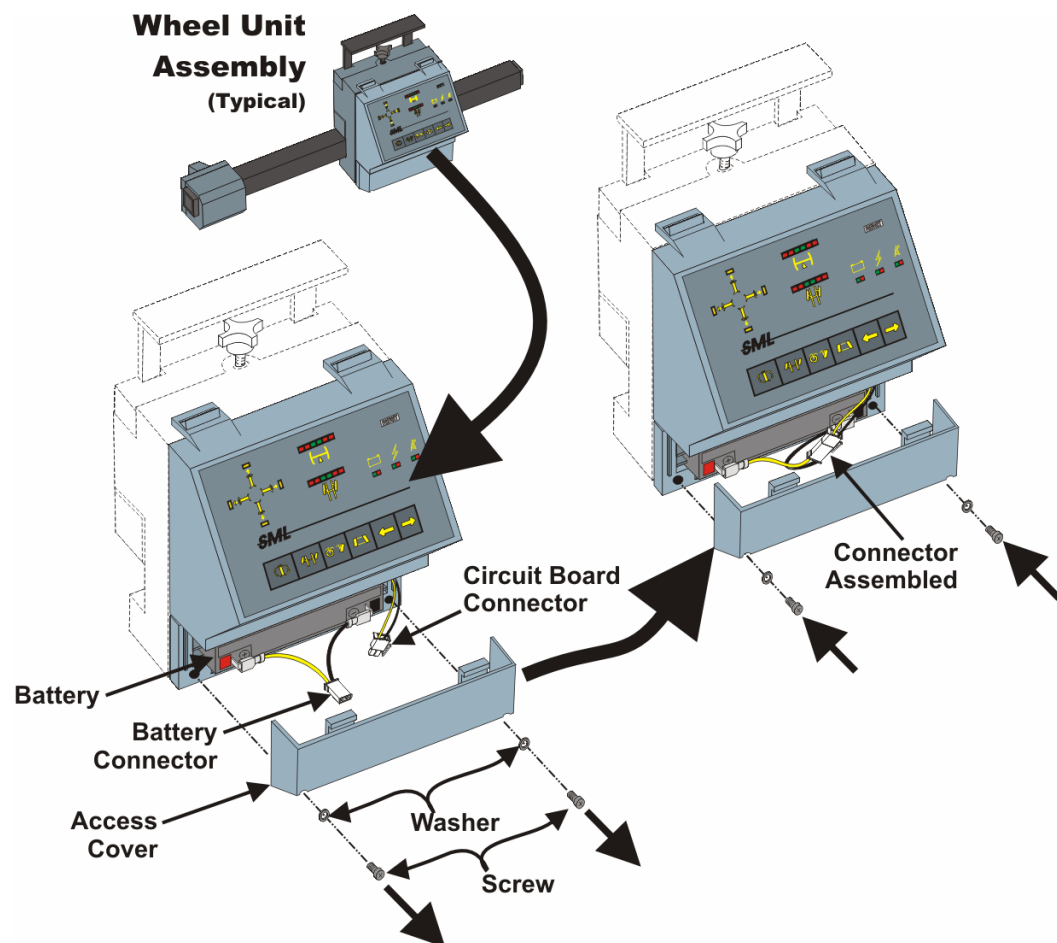

Figure 1-3. Wheel Unit – Battery Connection.
- 1.2.8.1 Open the shipping container and remove all the wheel units, setting each unit in a designated work area for battery connection. Use Figure 1-3 as a guide, as needed.